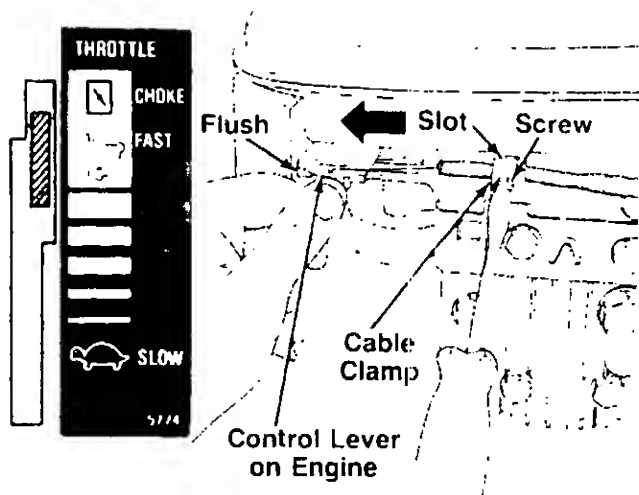

FIGURE 6C.—Models 436R and 439R
1. Push the throttle control lever on the handle all the way forward to CHOKE, then back it off two "clicks" (approximately 5/16"). See figure 6C.
2. The throttle control cable is attached to the upper handle. Route the throttle control cable under the lower handle and inside the handle mounting bracket. Hook the "Z" end of the throttle control cable into the hole in the control lever on the engine. See figure 6C.
3. Using a 5/16" wrench or nutdriver, remove the screw on the cable clamp shown in figure 6C. Slip the control cable under the clamp. Replace the screw (cable should be above the screw), but do not tighten (cable must still move freely beneath the clamp). Make certain the tab on the cable clamp is seated into the slot on the engine.
4. Push the control lever on the engine as far toward the **outside** of the engine as it will go. The edge of the control lever should be flush with the bracket on the engine. See figure 6C. Hold the control lever in this position as you tighten the screw on the cable clamp to secure the throttle cable.